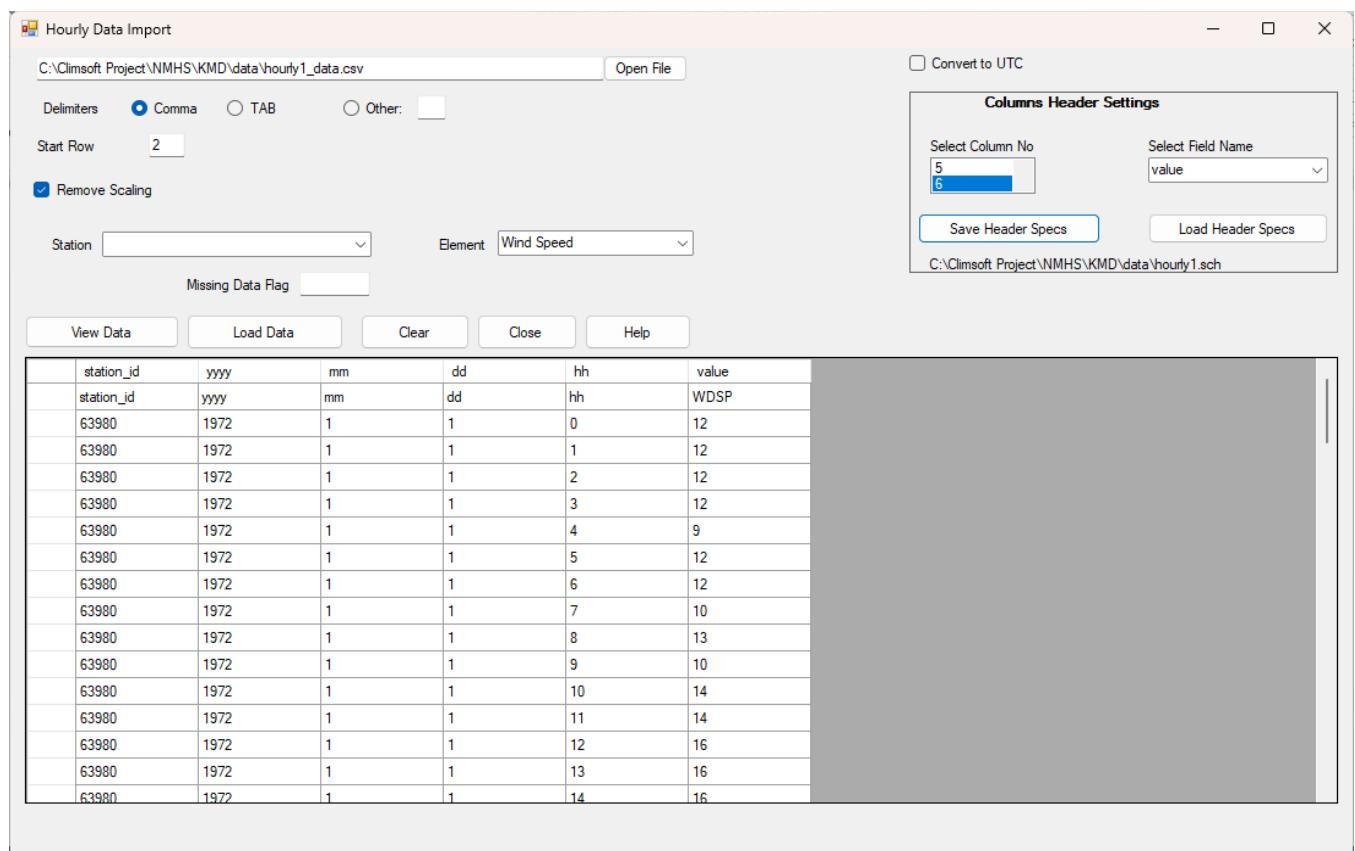

Figure 61: Columns Header Settings
- Set the column headers by matching each data column by its corresponding field name then click the button “Save Header Specs” to have the dialog shown in *Figure 61*,